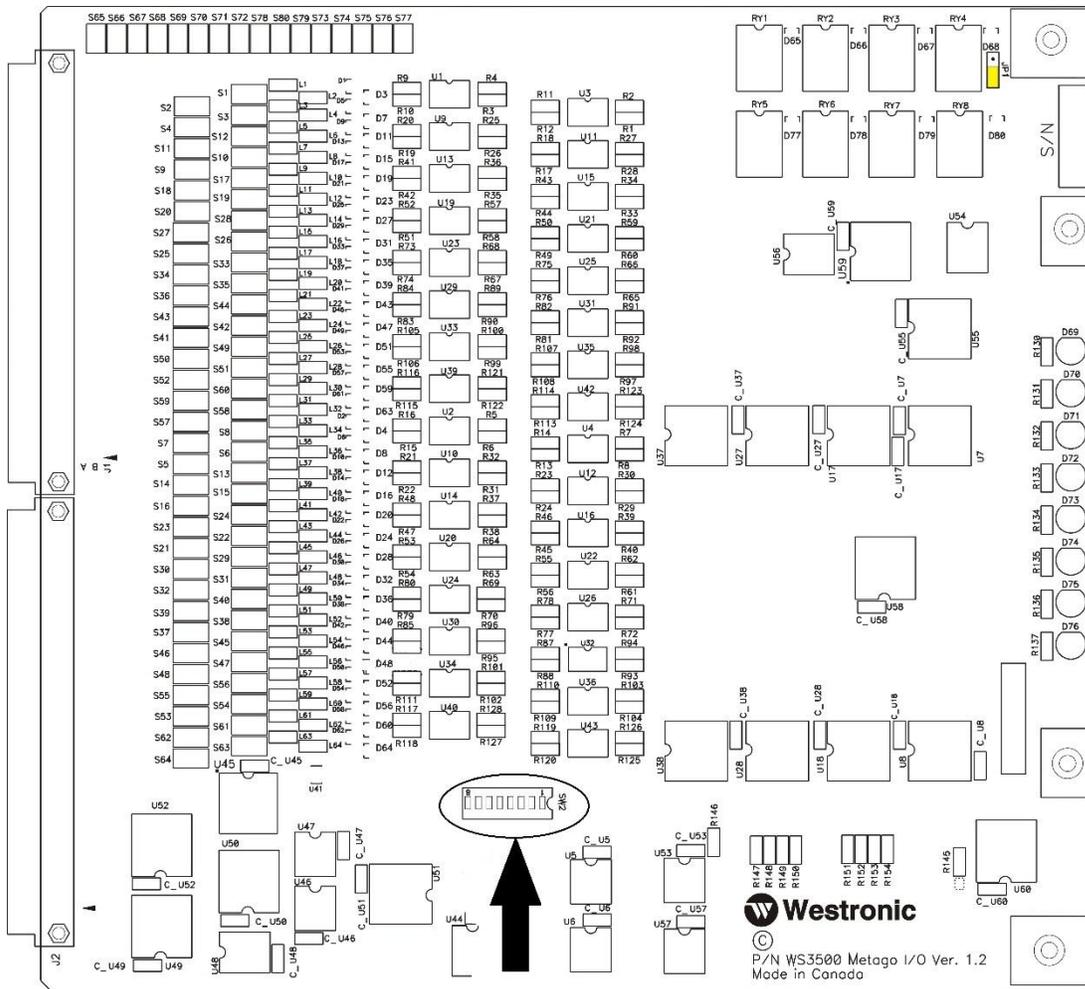

Figure 15 I/O Module Layout and DIP switch location
Each I/O module is also equipped with the ability to configure the Relay common reference using jumper JP1, which is located in the upper right of *Figure 15*.
**The default setting** of JP1 is to have pins 2 and 3 connected together as shown in *Figure 15*. This brings the Relay common out to pin 34 of backplane connectors J1 (lower module) and J3 (upper module) with NO reference to Ground, Signal ground, or 48 volt battery. Thus the user can externally chose the wiper reference depending on their individual control output requirements.